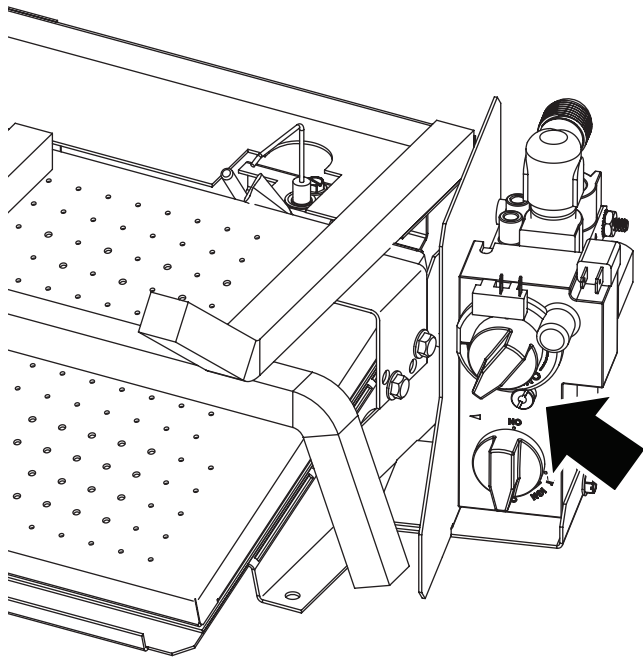

Figure 1
3. Using a flat-head screwdriver, remove the Pressure Regulator from the front of the Gas Valve. **See Figure 1.**